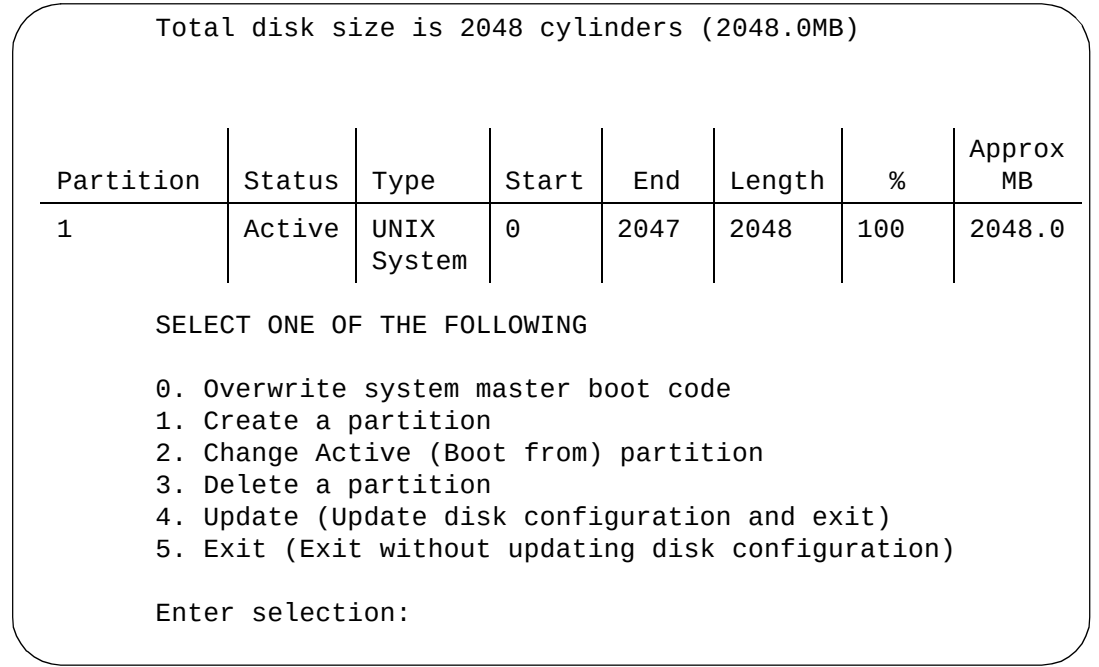

Figure 6-26. Hard Disk Partitioning - Disk 1 Screen
The system displays the Hard Disk Partitioning - Disk 1 screen (Figure 6-26).
- The system displays the Hard Disk Partitioning - Disk 1 screen (Figure 6-26).
(Figure 6-26).